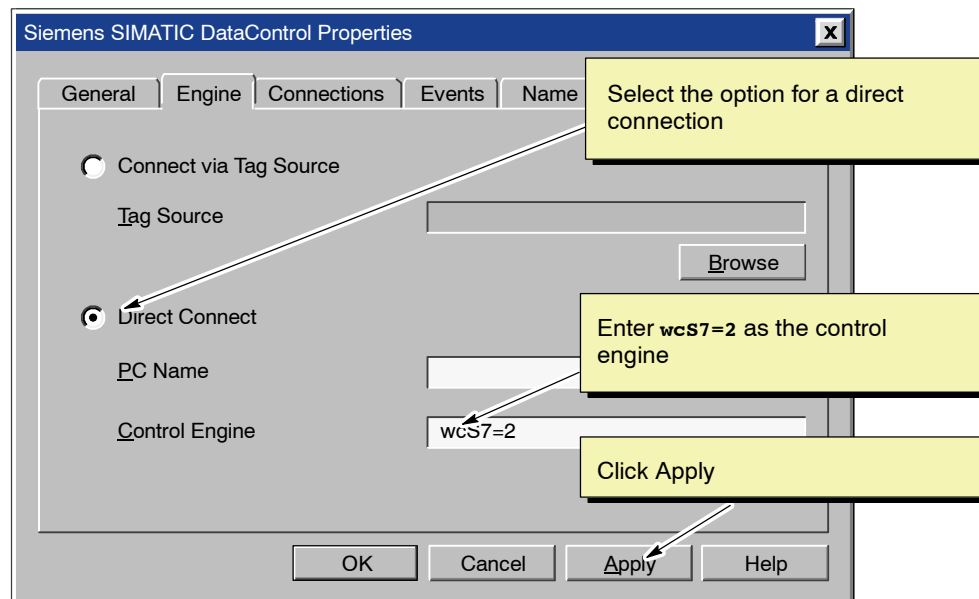

Figure 3-13 Connecting the Data Control to WinLC RTX
1. In the Properties dialog box for the Data control, select (click on) the Engine tab to display the options for selecting the control engine. See Figure 3-13.